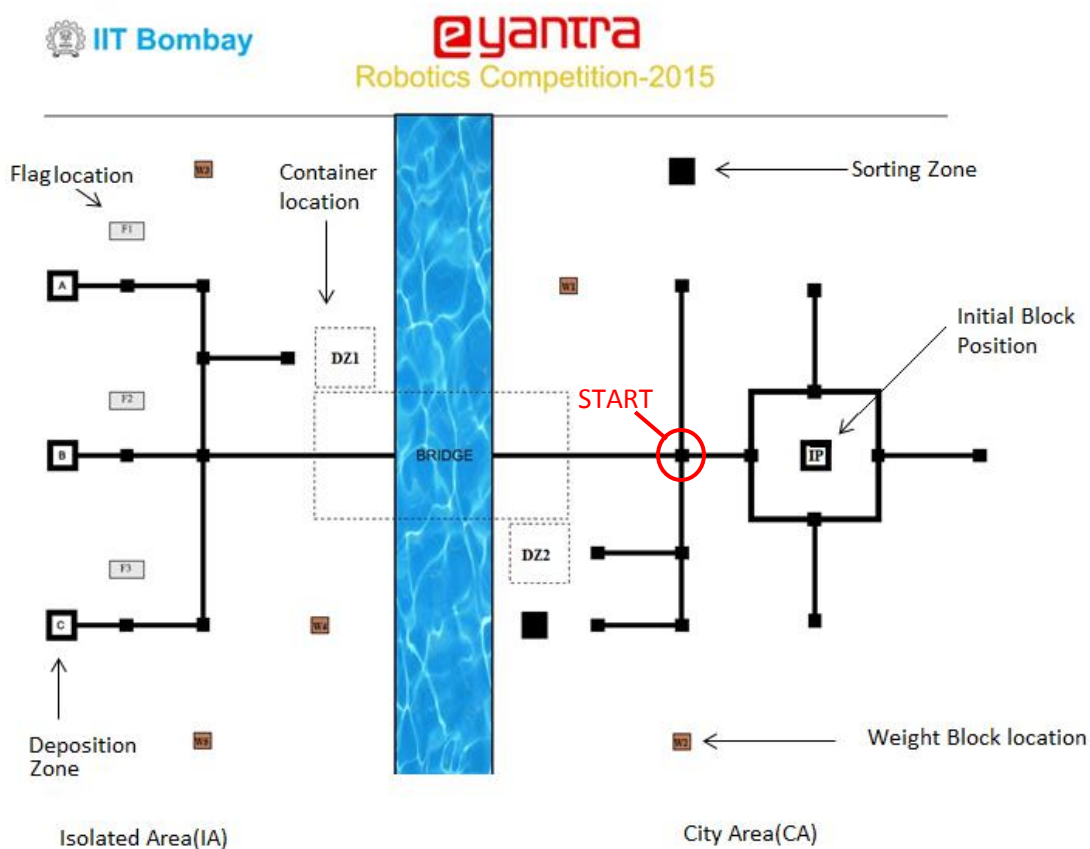

Figure 1: Arena
With reference to Figure 1:
- The arena is divided into two parts **CA** and **IA** respectively. CA is separated from IA by a water body (Blue colored portion in Figure 1). A Bridge connects these two parts.
- As indicated in Figure1, two **Weight Deposition Zones** DZ1 and DZ2 are marked on the arena where **Containers** are placed to add Weights. The **Weight Block Locations** contain the required **Weight Blocks** to operate the Bridge. Construction and operation of the bridge are explained in Section 3.3.
- Three types of Hazardous Wastes -- blocks one each of R, G, B -- are stacked at **Initial Position (IP)** in CA, such that the High CCL types are on top of the stack and Low CCL type is at the bottom. (Details are explained in Section 3.2)
- Two **Sorting zones** as shown in Figure 1 can be used as temporary holding zones for the Hazardous Wastes.
- In IA there are three **Deposition Zones** (indicated by A, B and C as shown in Figure 1). Each of these three Deposition Zones has an associated color indicated by a **Flag** -- to designate the Type of Hazardous Waste that can be deposited there.
The robot starts from **START** position in CA of the arena (Refer to Figure 1) and performs the following tasks: